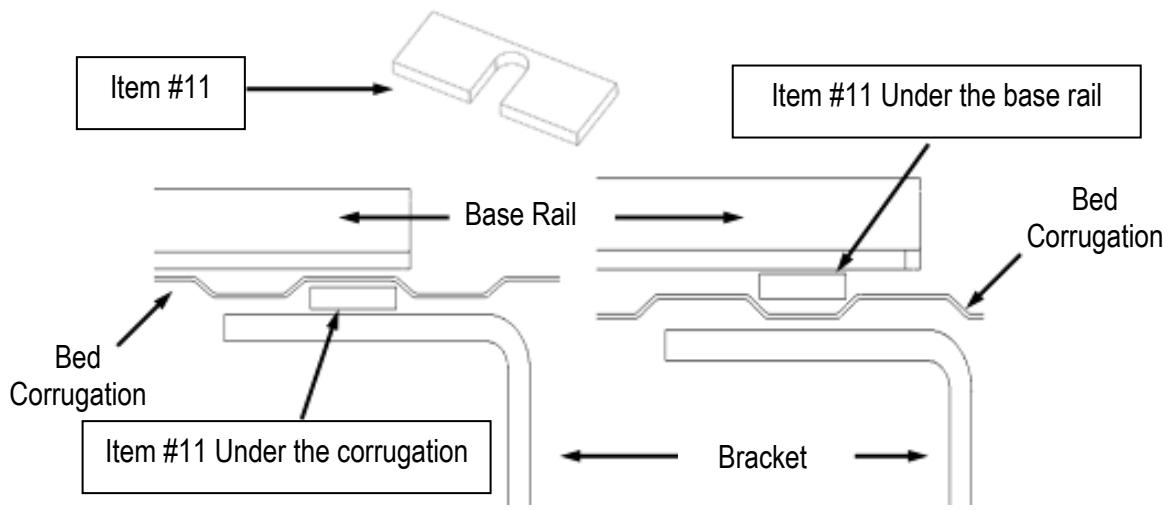

Figure 3
3. Reposition the bed rails in the bed so that the square 5/8" hole in the end of each rail is lined up over the drilled holes. Place item #12 (1" spacer tube) under ends of each bed rail, in line with the drilled holes as shown on Figure 3.